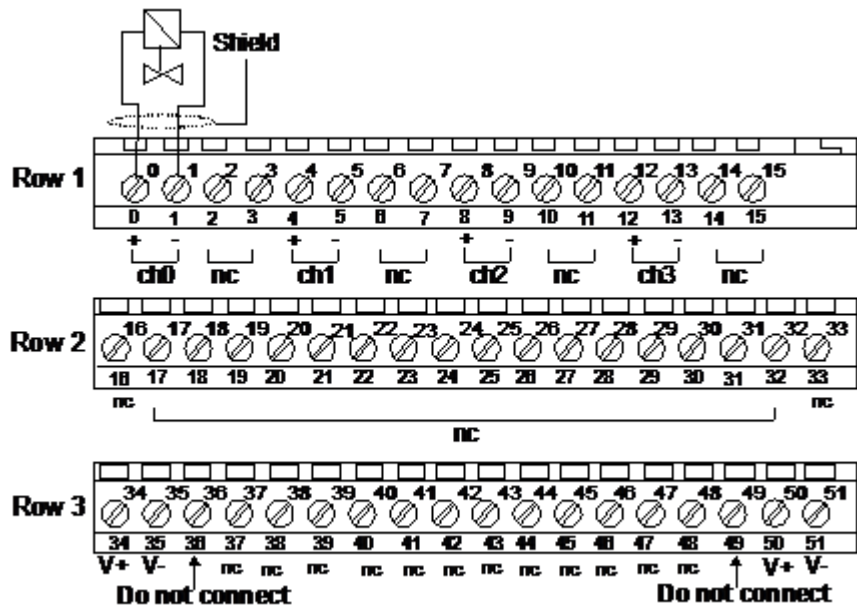

Figure 19: Typical Digital Output module connections.
- 1 Observing polarity, connect the output leads from the + and - terminals for channels 0 to 3 to valve actuators in the current range of 0 to 45mA - see the following curve. Refer to Figure 19 for typical digital device connections.
Do not use the unused terminals (2, 3, 6, 7, 10, 11, 14, 15, 17 up to 32, 37, 38, 39, 46, 47, 48,) on this terminal base unit. Using these terminals for any purpose can result in damage to the module and/or unintended operation of your system. (Figure 19).